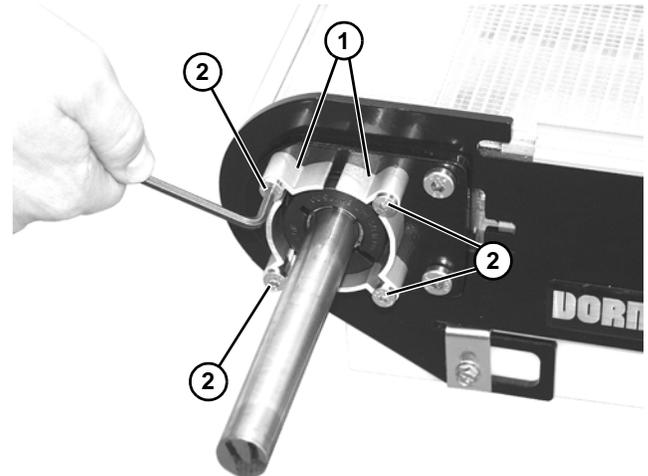

Figure 15
3. Install two spacer plates* (Figure 15, item 1) with four M6 hex head screws (Figure 15, item 2).